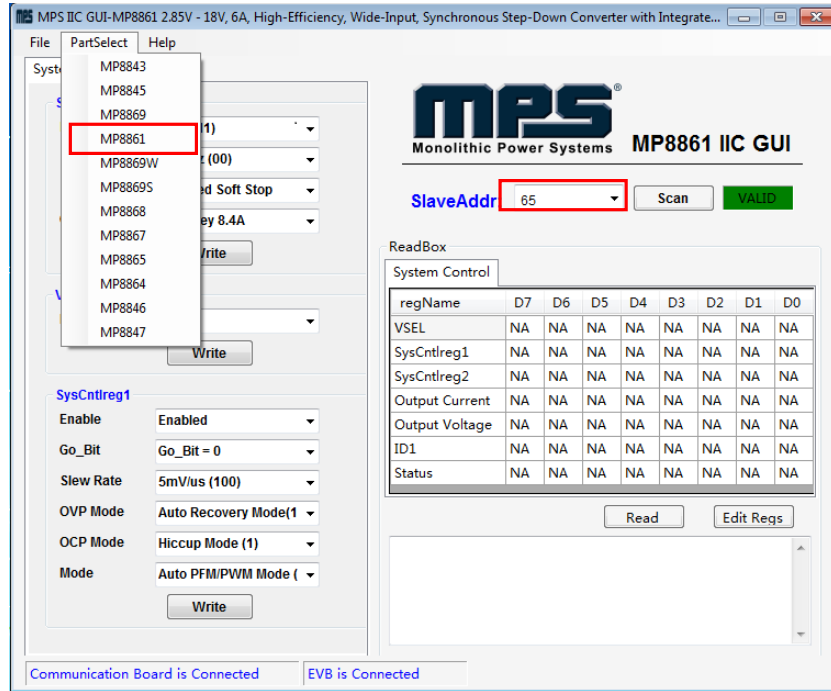

Figure 7: Appearance of Address Shows Successful Connection
- If connection is successful, the address will be listed in the “Slave Address” (see Figure 7).
- Click the **“PartSelect”** button to select the MP8861 (see Figure 7). The Register Control menu will appear on the left side. The I2C register values will be read and displayed on the right side after clicking the **“Read”** button (see Figure 9).